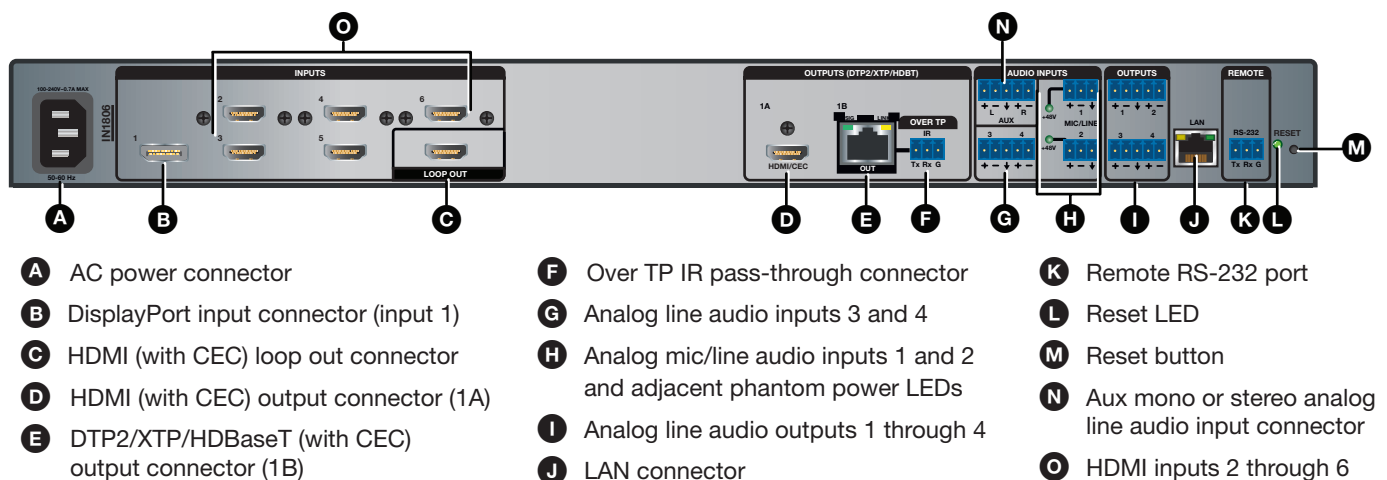

Figure 1. Rear Panel Connectors — IN1806
- Connect a DP source to the Input 1 DisplayPort connector (see figure 1, **B**).
- Connect an HDMI, or DVI with an appropriate adapter, display to HDMI/CEC output connector 1A (see figure 1, **D**, on the previous page). Connect a display to the HDMI Loop Out connector (**C**).
Connect a 100 to 240 VAC, 50-60 Hz power source to the AC power connector (see **figure 1, A**, on the previous page).